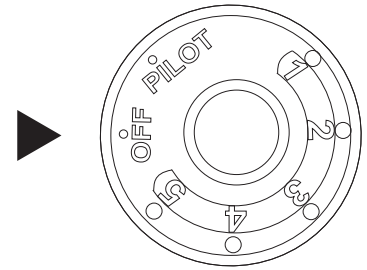
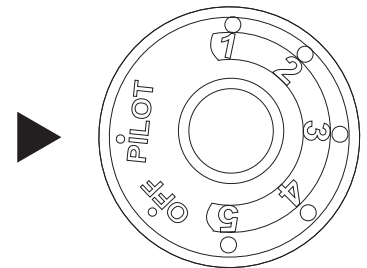

Fig. 16
Fig. 17
3. Turn control knob clockwise  to "OFF" position (see Fig. 16).
4. Wait (5) minutes to clear out any gas. Then smell for gas, including near the floor. If you smell gas, **STOP!** Follow "B" in the safety information above. If you don't smell gas, go to the next step.
5. Turn knob counterclockwise  to the "PILOT" position. (see Fig. 17). Depress control knob.